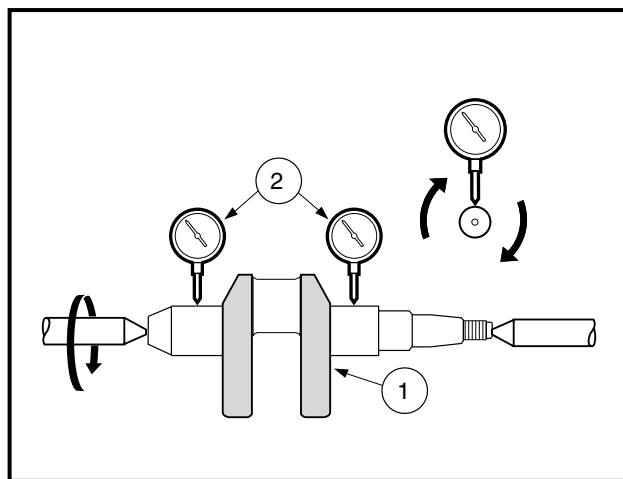

Figure 13-87 Check Crankshaft Alignment
- 8.2. Turn crankshaft (1) slowly and measure total indicated run-out at the location shown (**Figure 13-87, Page 13-40**).